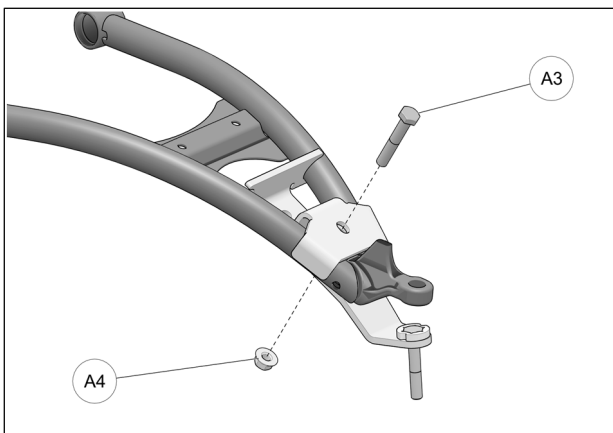

Fig. 12
- Insert M10x60mm bolt (A3) from the top and secure the two parts together with the nut (A4) provided. Tighten assembly to 50 N•m [37 lb•ft] of torque. Refer to Fig. 12